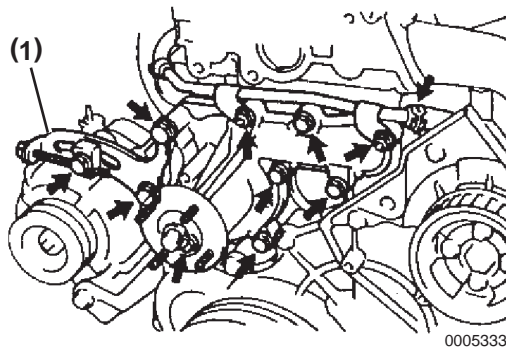

Figure 7-5
2. Temporarily tighten the 3 bolts securing the alternator and adjusting bar (**Figure 7-5, (1)**) then uniformly tighten the 7 bolts and 2 nuts securing the freshwater pump to the cylinder block (**Figure 7-5**).